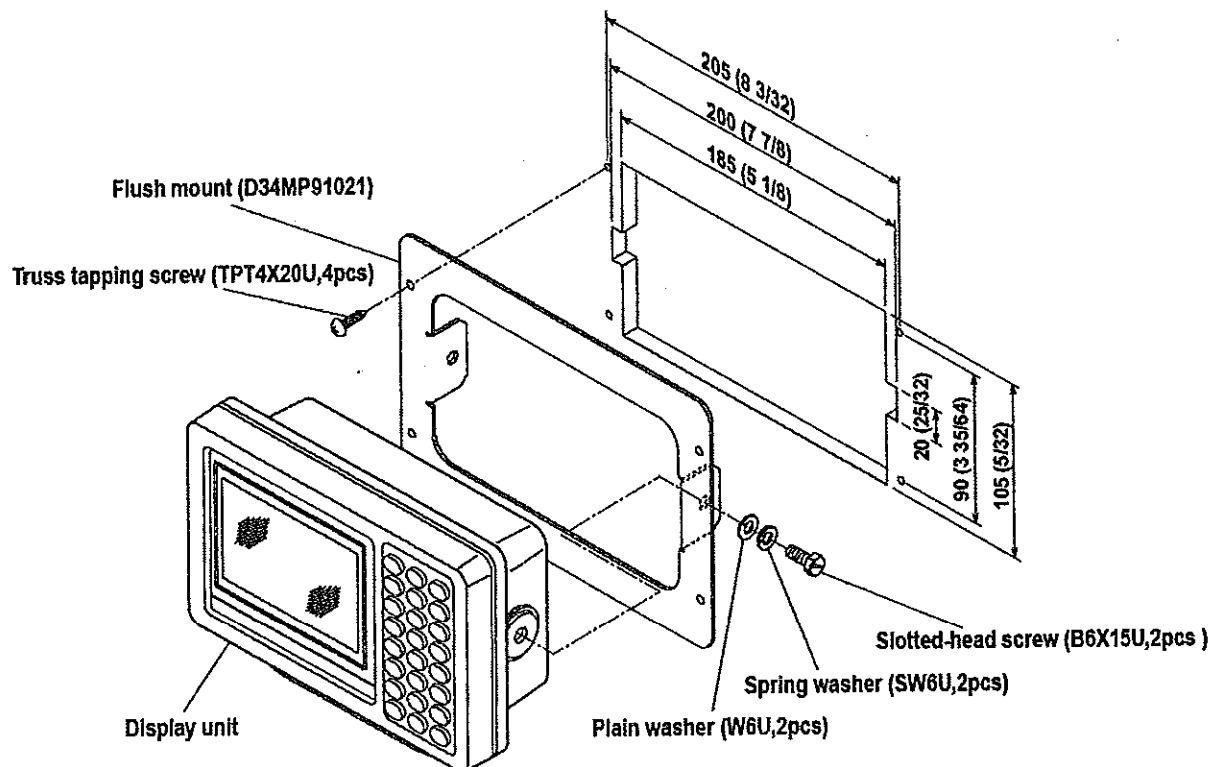

Figure 4.3 Fitting KGP-920 in flush mounting mode
- (1) Cut a rectangle opening as shown in a figure 4.3.
- (2) Loosen two (2) fixing knobs that fasten the display unit onto the mounting bracket.
- (3) Put the display on the flush mount and fix with two (2) slotted-head screws.
- (4) Put the display on the opening and fix with four (4) tapping screws. In case you use M4 screws to fix the display, select an appropriate screw length that best suits fixing the unit to the panel thickness.